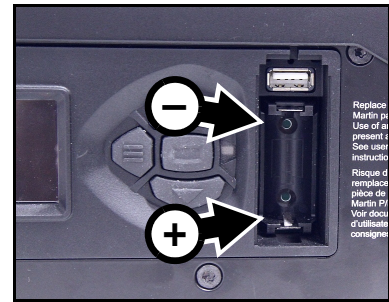

Figure 10: Battery replacement
2. See Figure 10. Push down on the locking tab (arrowed) with a screwdriver to release the USB port / battery compartment cover and remove the cover.